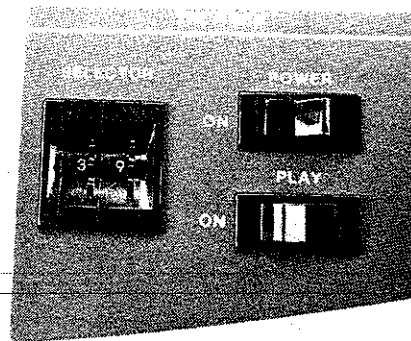

Figure 2-3. "The Horn".
②⑦ **HORN SELECTOR** Switch — Allows selection of the air or electric horns when the steering wheel horn button is depressed.
②⑧ **HEAT** Switch — To turn on the heater blower for the pilot's area press this switch to either the **HI**— or **LOW** position. Note that when the front heat switch (26) is **OFF**, the heat switches (25) and (28) can be used to provide cool air circulation by turning on the blowers.
②⑨ **AUX. BATTERY** Switch — When this switch is pressed, jumper solenoids connect the generator and coach batteries together (in parallel) to provide extra power for cranking the generator or coach. Releasing the switch immediately isolates the two battery systems.
③① **THE HORN**, Figure 2-3 — This corner of the dash has 3 different switches for use with the musical horn.